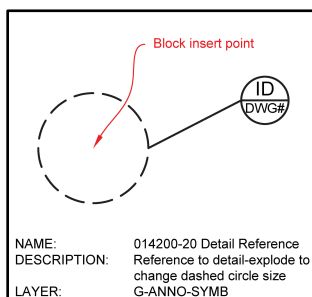

Figure 6-Block 014200-20 Detail Reference
2. Details shall be identified by **number** using the symbols indicated in Figure 6.
Unlike other blocks that are usable without exploding, explode Block 014200 (Figure 6) after it is inserted. Resize the dashed circle as needed to identify area of detail. Adjust linetype scale to ensure that circle shows as dashed in layout. Adjust the line connecting the detail circle to the dashed circle as needed on the drawing. The lineweights of both the line and the circle shall be at least 0.024" (see Table 3). A heavier lineweight may be required to ensure that line is visible.